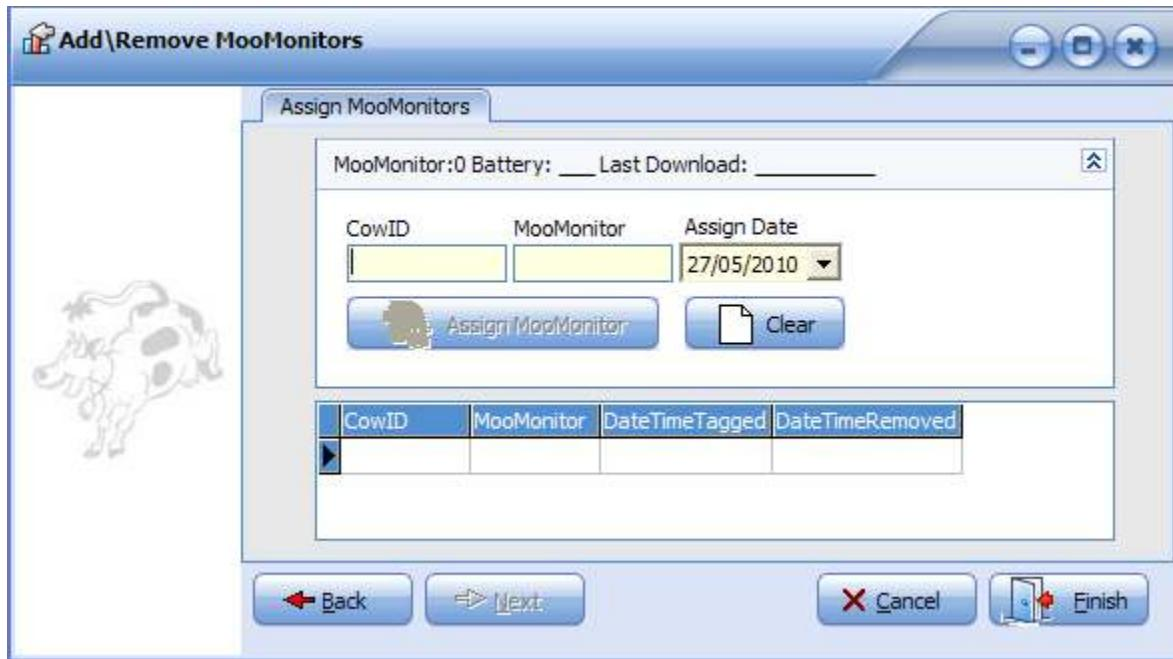

Figure 38 Assign MooMonitors screen.
- g. The screen shown in Figure 38 on the next page should be displayed.